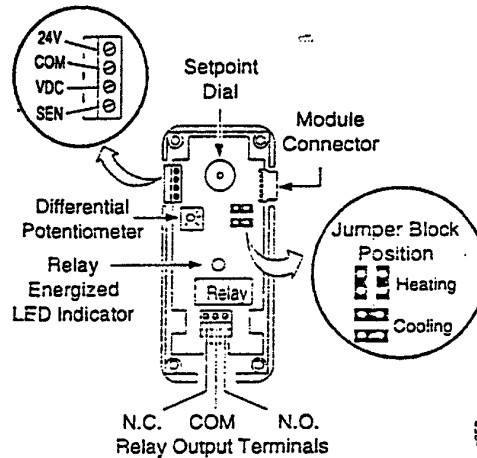

Figure 2: The A350 Electronic Temperature Control Board Layout and Terminal Locations
Differential is defined as the change in sensor temperature between energization and de-energization of the relay. The differential can be adjusted between 1 and 30 F° (0.5 to 17 C°). Adjustment is made using the potentiometer marked "DIFF"; see Figure 2 for potentiometer location.
As shipped from the factory, the heating/cooling jumper blocks are installed in the horizontal cooling position. (See Figure 2.)
Shielded cable is not generally required for sensor wiring on runs of less than fifty feet, but is recommended for lengths greater than fifty feet. When using shielded cable, isolate and tape the shield at the sensor. Connect the shield to the "COM" sensor terminal on the A350 (see Figure 2 for terminal location).
- A variety of SET189A Series Temperature Sensors and mounting hardware are available for use with A350 Series Controls. The sensor must be connected to the (-) "COM" and (+) "SENSOR" terminals on the three conductor terminal strip located at the top center of the printed circuit board (Figure 2). The sensors are not polarity sensitive.
2. Set the heating/cooling jumper blocks to the desired mode of operation. Position the jumper blocks vertically for heating or horizontally for cooling. (See Figure 2.)